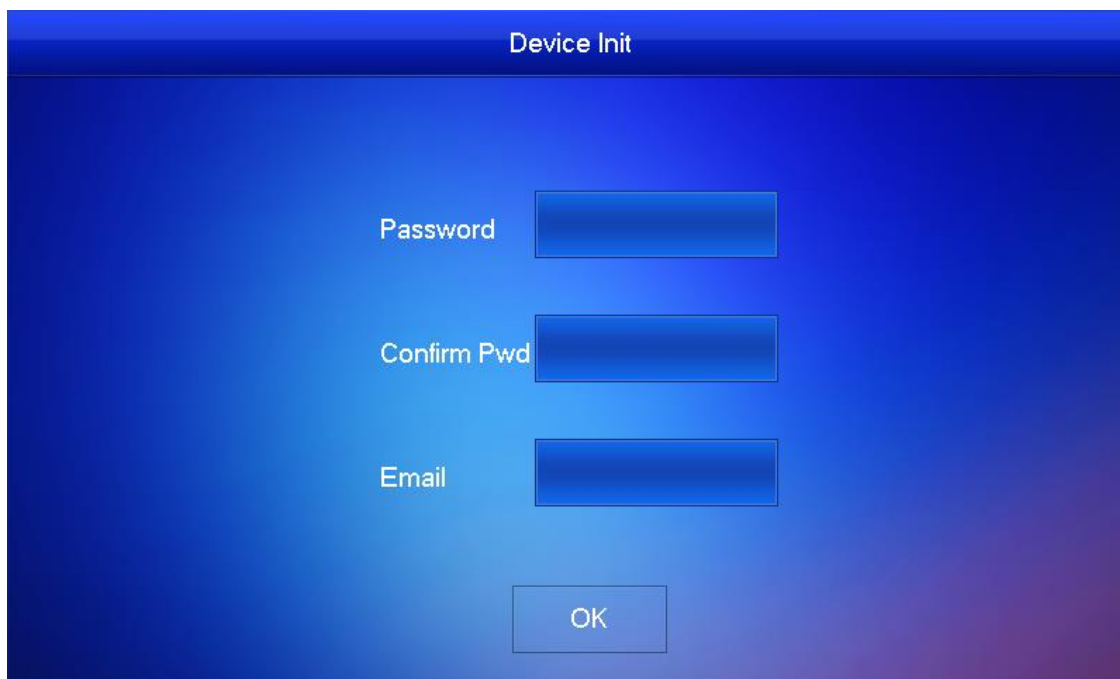

Figure 2-7
Step 1 Power on the device. The system displays “Welcome” and enters “Initialization” interface, as shown in Figure 2-7.